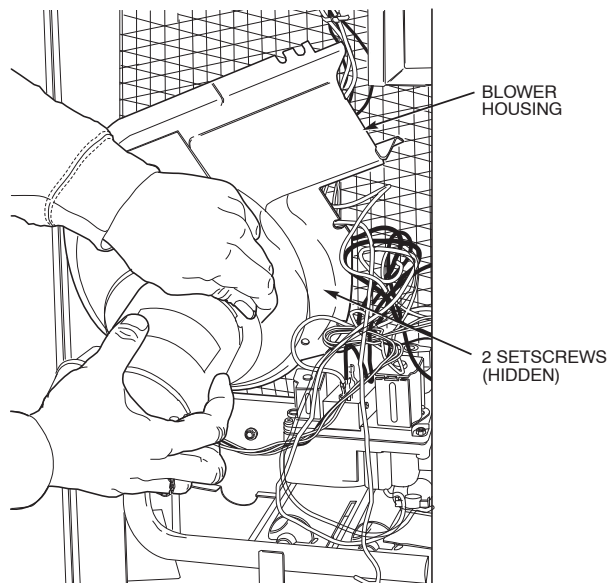

Fig. 20 - Removal of Motor and Blower Wheel
3. Slide the assembly out of the unit. (See Fig. 20). Clean the blower wheel. If additional cleaning is required, continue with Steps 4 and 5.